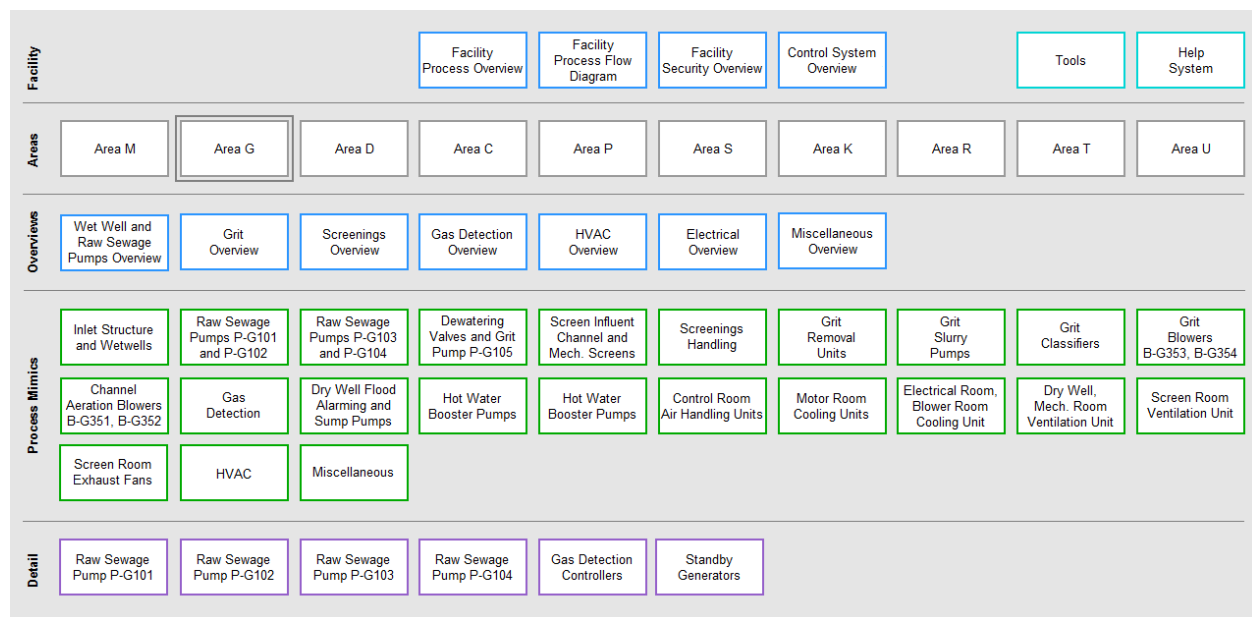

Figure 2-2: Sample Navigation Display
A sample navigation display is shown in Figure 2-2.
4. To return to the main navigation display (Figure 2-2), the operator may click the “Navigation” button or the “Back” button in the header display.